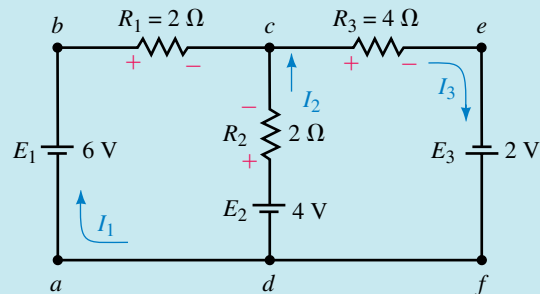

FIGURE 8-18
EXAMPLE 8-8 Find the current in each branch in the circuit of Figure 8-18.
Step 1: Assign currents as shown in Figure 8-18.